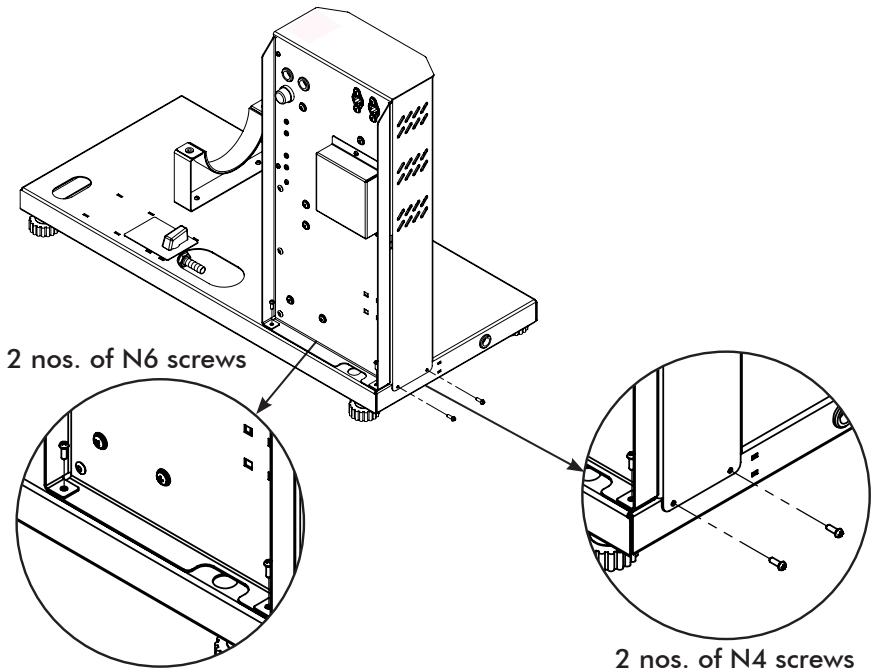

Fig 15.2 Controller box screwing
3. Fix the panel with the provided screws with the unit as shown in (fig.15.2)